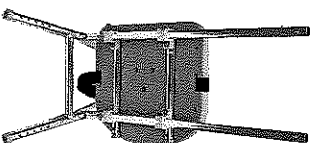

Figure 2
4. Insert the rail with 4 push buttons into the side of the frame you want the seat to face, **making sure the two larger push buttons face downward, and the two smaller push buttons face outward** (the smaller push buttons are for the sliding rail locking mechanisms). Make sure the larger, bottom button snaps firmly into the frame. See *Figure 2*.
5. Insert the other sliding rail into the other side of the leg frame (Part A) as shown in *Figure 2*, making sure the button snaps firmly into place.
6. Take the seat with the attached sliding rings (Part D), and align the sliding rings with the rails, so that the locking side of the seat (the side with the red tabs) is on the same rail as the 4 brass push buttons. Insert both sliding rails into the sliding rings under the seat. Push in the push buttons to slide seat easily onto the rails. See *Figure 2*.